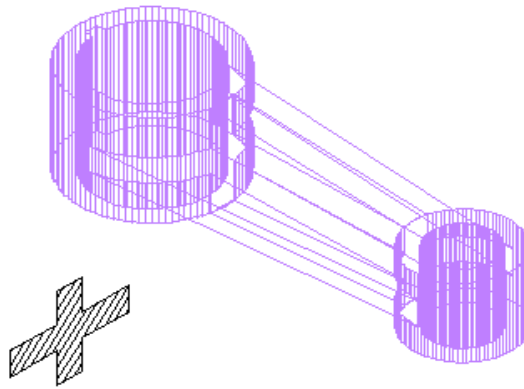

Figure Step 4
Step 4 On layer: Hatch, create a 2D region section at the cutting plane B-B. Move the region away from the model and hatch it with ANS131. (Figure Step 4)